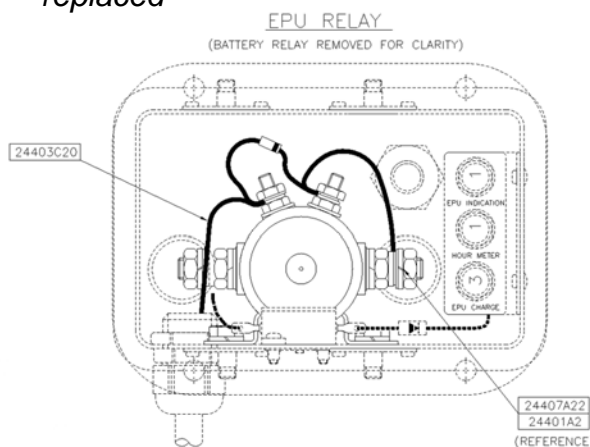

Figure 3: EPU Relay Installation
- 10.1.4** Install the new EPU relay (P/N: X61-0028) using the supplied hardware (bolt P/N: AN4-4A, washer P/N: NAS1149F0463P) and cable ties (P/N: MS3367-4-9). Refer to AMM DA201-C1, Chapter 24-40-00 and Figure 3.